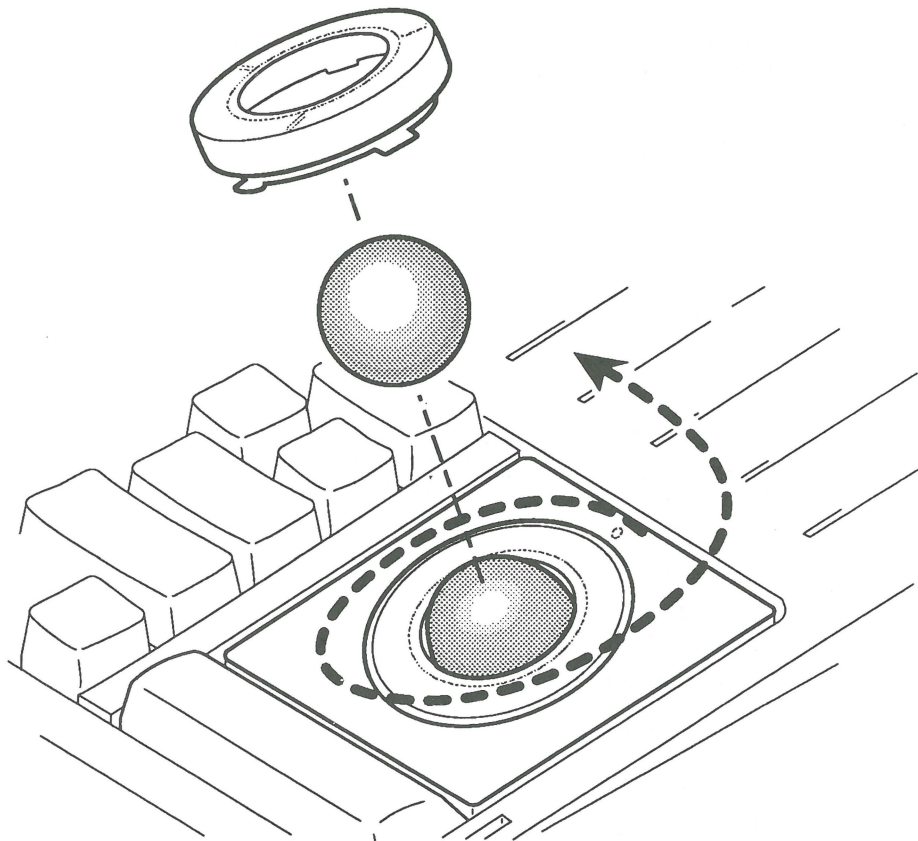

FIGURE 13
1. **Figure 13.** Rotate the trackball retainer counterclockwise as far as it will go and remove the retainer and trackball.